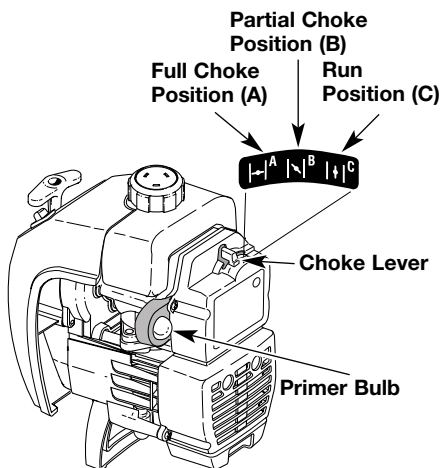

Fig. 7
3. Fully press and release primer bulb 5 to 7 times. Fuel should be visible in the bulb (Fig. 7).
4. Place the choke lever in the **FULL** choke position (**A**) (Fig. 7).
6. Place the choke lever in the **PARTIAL** choke position (**B**) (Fig. 7).
9. Squeeze the throttle control to warm up engine for 5 to 10 seconds. Place the choke lever in the **RUN** position (**C**) (Fig. 7).
NOTE: Choking is unnecessary when starting a warm engine. Put the On/Off Stop Control in the **ON** position (Fig. 9), and start in with the choke in the **PARTIAL** position (**B**) (Fig. 7).